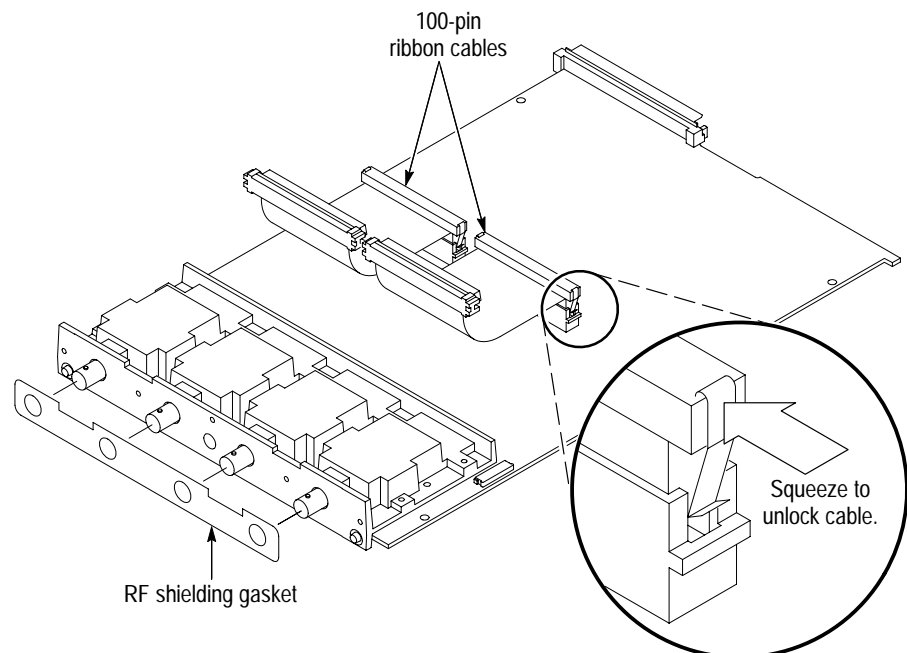

Figure 6–11: Acquisition board replacement
**Removal** Use the following procedure and Figure 6–11 to remove the Acquisition Board.
3. Unplug two (2) 100-pin ribbon cables from J100 and J101 as follows:
- a. Grasp and squeeze the metal cable retainers (Figure 6–11) to unlock the cable from its connector.
**Installation** Use the following procedure and Figure 6–11 to install the Acquisition Board.
1. Plug two (2) 100-pin ribbon cables onto J100 and J101. Be sure to firmly seat the cables into their sockets so the cable retainers snap into place.